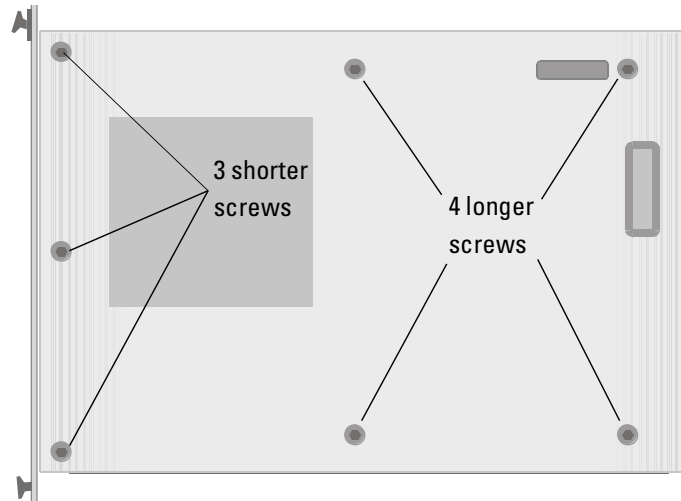
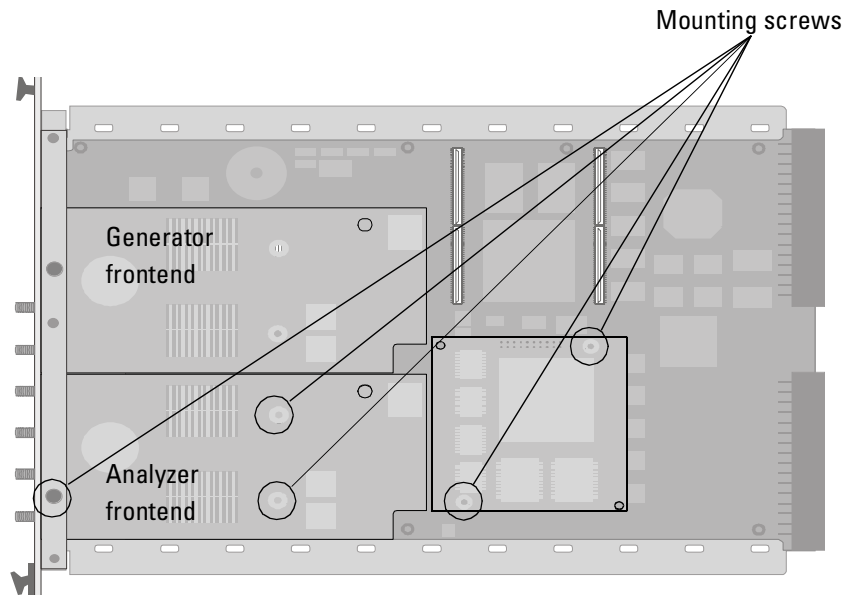
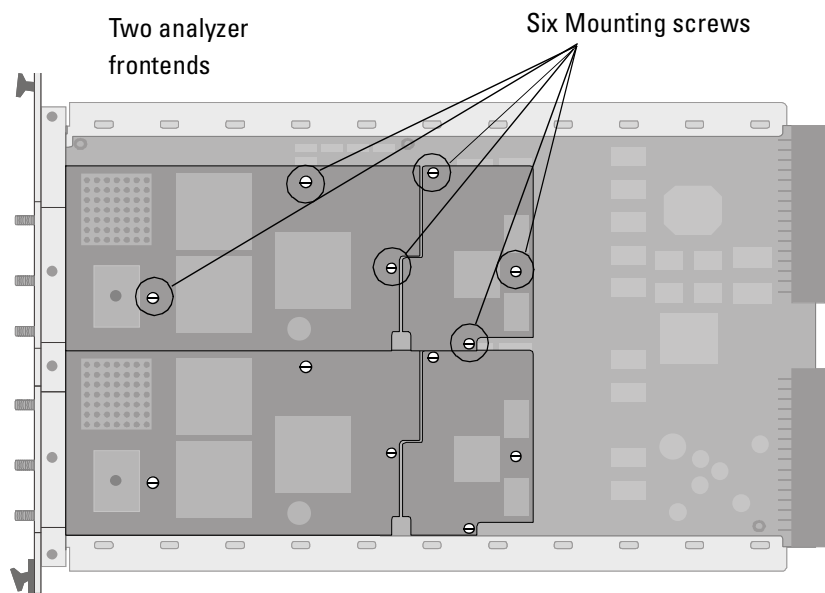

Figure 25 Cover Screws of ParBERT Modules
Figure 30 ParBERT E4861A Module With Cover Removed
Figure 31 ParBERT E4861B Module With Cover Removed
- 1 Using a T-10 size Torx screwdriver, remove the seven screws from the side panel of the module. The locations of the screws are shown in *Figure 25*.
- 2 Using the Torx T-10 size screwdriver, remove the seven screws that hold the side cover. See *Figure 25* on page 48 for the location of the screws. An E4861A module will appear as shown in *Figure 30*.
Figure 31 shows an E4861B module.
- 2** Secure the frontend to the main board using the screws that were delivered with the frontend. See *Figure 30 on page 50* and *Figure 31 on page 51* for the locations of the screws.
- 4** Remount and secure the side cover. See *Figure 25 on page 48* for the location of the screws.
- 4 Reattach the side cover with the screws you removed earlier (see *Figure 25 on page 48* for the location of the screws), and reinsert the clock module into the mainframe.